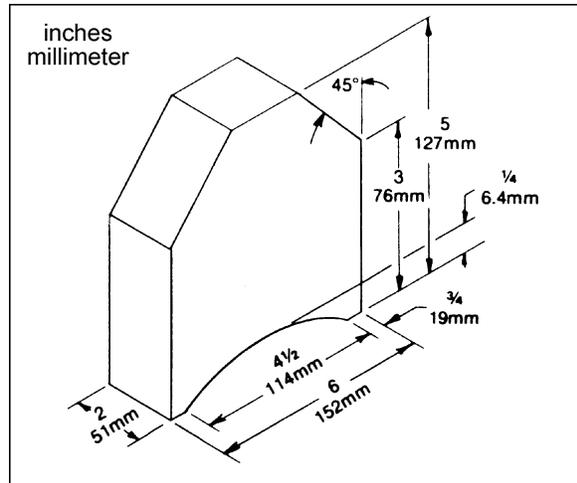

Figure 10
2. Place a dial gauge (not provided) under a knife insert in the cutterhead. If a dial gauge is not available, use a finished block of wood with notches cut out for the table rollers, in conjunction with a feeler gauge. See Figure 10 for an example of a wood block you can make and use as a gauge.